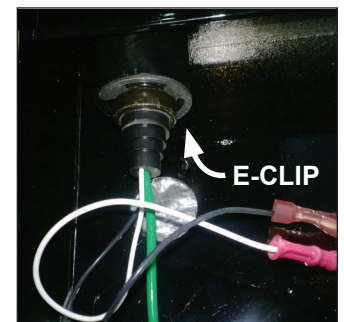

Fig 4.10 The E-clip and frame power coupling wiring.
3. On top of the cornice, slide the squaring mechanism towards the center of door area and remove through the relief cut out (Fig. 4.10).